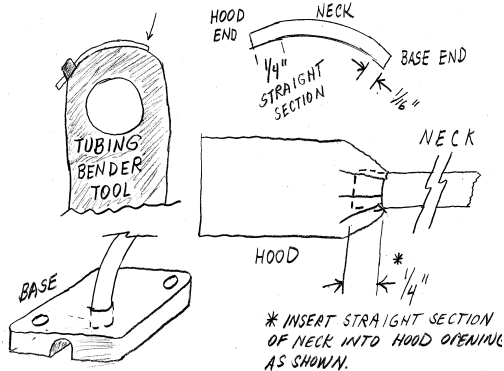
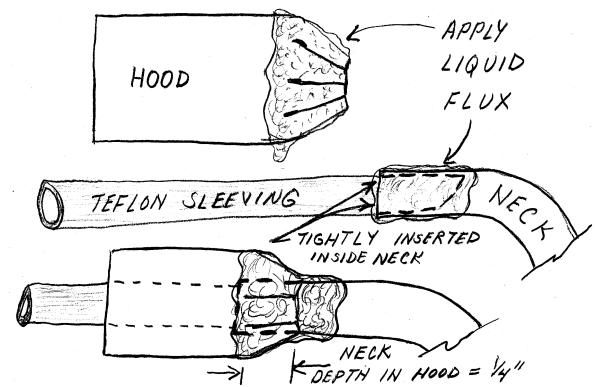

Figure 11
Figure 14
3. **Neck, Hood and Base Fitment** Refer to **Figures 11, 12, 13** At this point if the fixture calls for a curved neck it must be formed before being soldered in the hood piece. Once the neck has been formed insert it as shown in the hood to the correct depth. Check for fitment. (Note: *It may be necessary to repeat adjustment of the neck diameter opening to ensure correct fitment. Proper fitment allows the neck to slide freely when it is moved in or out of the opening but not be excessively loose or sloppy*). At this time insert the other end of the neck into the fixture base neck hole for fitment. If tight, increase the opening of the hole to provide more clearance but not excessively loose. Some clearance of a few thousandths of inch is needed for proper flow of solder to fill the gap between the neck and the hole in the base.
4. **Solder Preparation** Refer to **Figure 14** Remove the neck from the opening. Place the hood in a holding device so that it can be positioned as an aid when soldering the neck in place. Tightly insert one end of some Teflon sleeving or E.M. into the open end of the neck used for hood fitment. Ensure that sleeving is secure in place to prevent solder from flowing into the **neck** during soldering. Cut the other end of the sleeving leaving it long enough to extend beyond the open end of the hood for removal after soldering is completed. Using a cotton swab soaked in liquid flux, apply it liberally to the end of the **neck** to be soldered and the indicated surfaces of the cut sections of the hood. Feed the free end of the sleeving into hood opening with the cut sections being careful not to loosen the other end of the sleeving in the neck to a depth as shown in **Figures 11 and 14**.